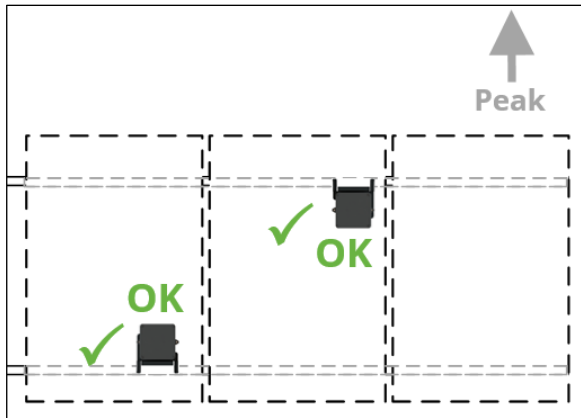

Fig. H1
1. Determine the location for the RMJ. You can mount the RMJ “above” or “below” the rail but the box itself must be *between* the rails (Fig. H1).